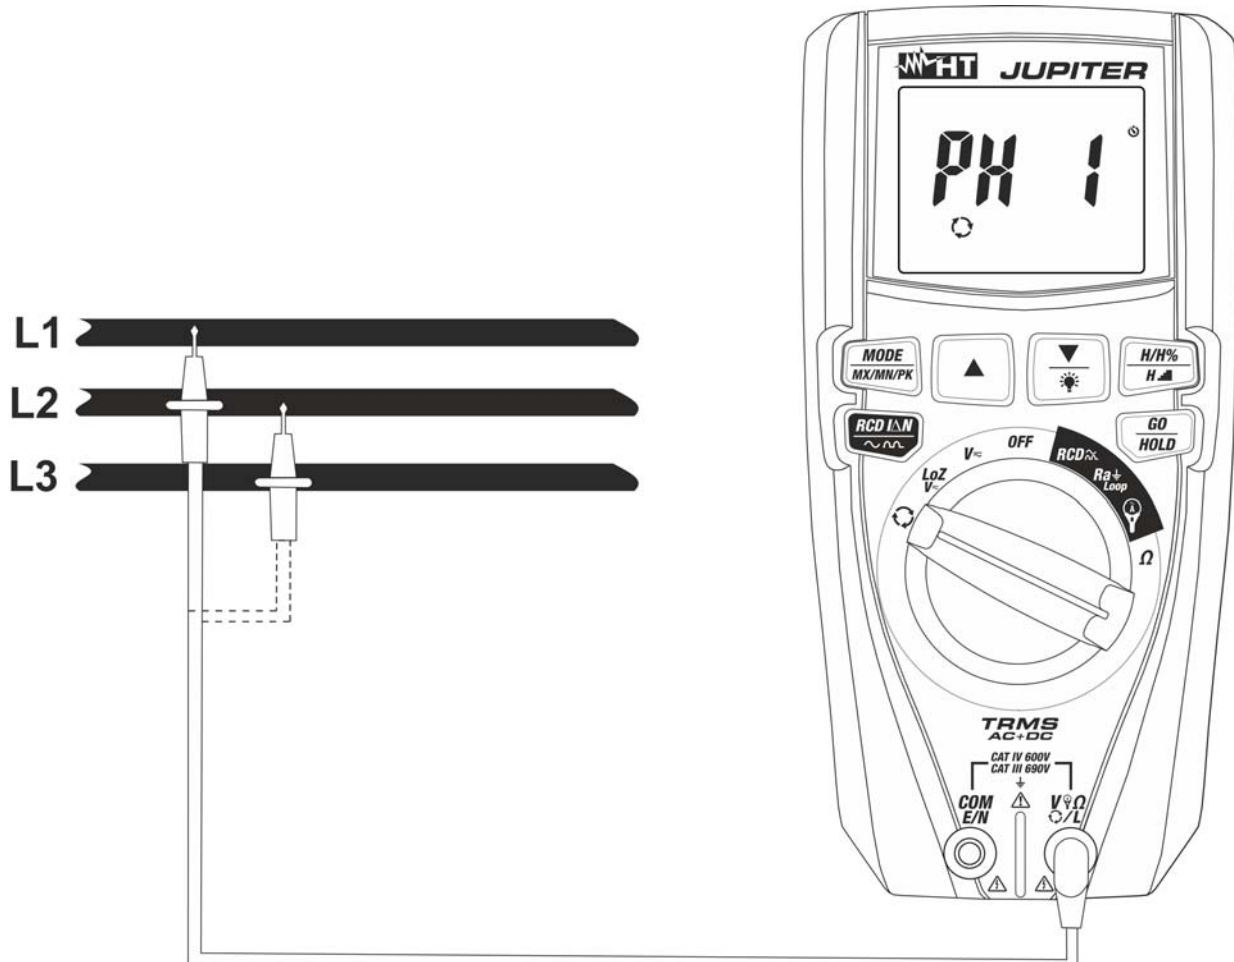
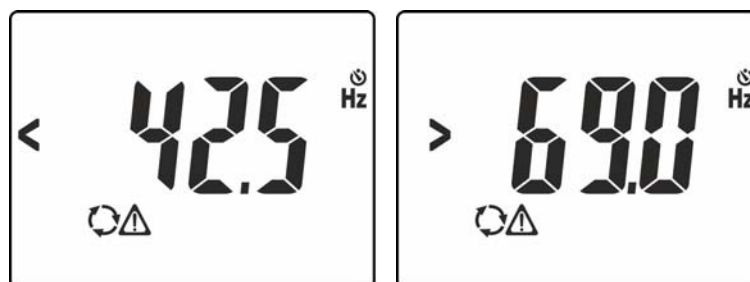
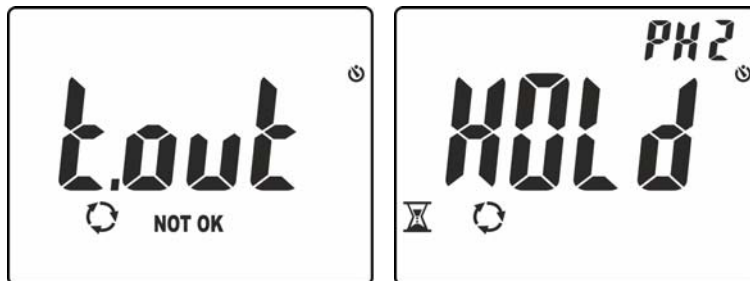

Fig. 12: Use of the instrument for phase sequence and phase concordance test
Fig. 13: Signal of voltage with wrong frequency
Fig. 15: Detecting phase L1 and waiting for phase L2
3. Position the red lead onto phase **L1** of the three-phase system to be tested (see Fig. 12). The following messages may appear on the display (see Fig. 13) to identify the presence of a voltage signal with frequency out of range **42.5Hz ÷ 69Hz**. In these conditions, the instrument does not perform the test.
- Position the red lead onto phase **L2** of the three-phase system to be tested (see Fig. 12). In case passage between phase L1 and phase L2 takes more than **10s**, the instrument shows message “**t.out**” on the display (see Fig. 15 – left side). In conditions of correct voltage and frequency, the instrument shows message “**HOLD**”, symbols ⏰ and “PH2” and the buzzer sounds continuously, waiting for a stable voltage value on phase L2 to be detected (see Fig. 15 – right side)